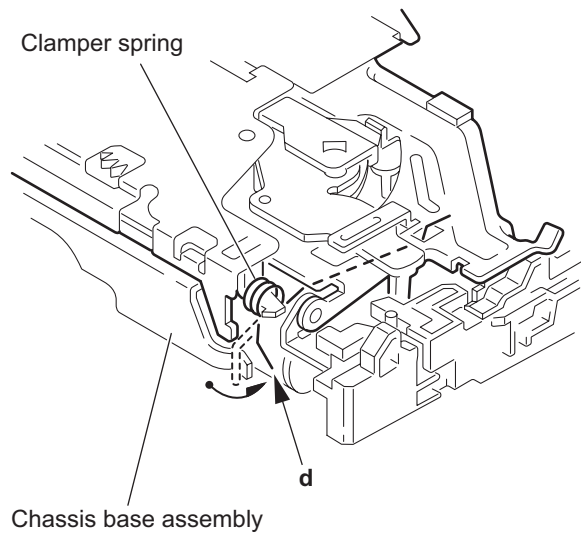

Fig.7
- Release the part **d** of the clamper spring from the bending part of the chassis base assembly. (See Fig.7.)
- Move the part **d** of the clamper spring to the outside of the bending part of the chassis base assembly. (See Fig.7.)